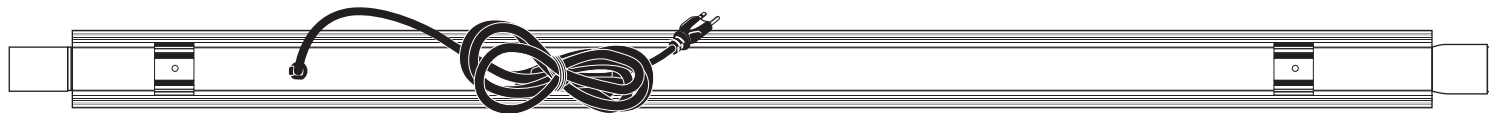
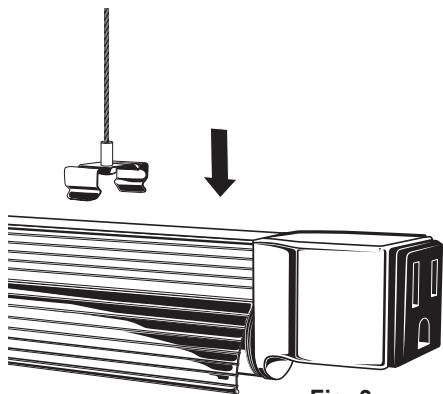
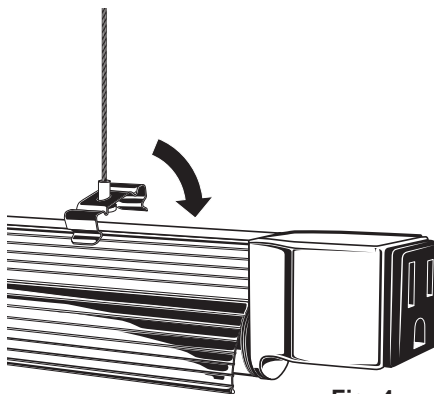
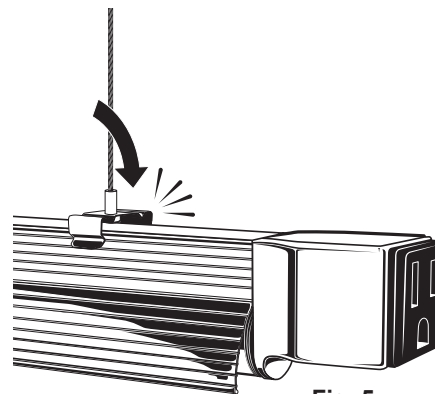

Fig. 2
Fig. 3
Fig. 4
Fig. 5
1. Install the mounting clip with cable to the top side of the fixture along the mounting track that the runs most of the length of the fixture (**Fig. 2**). Lower the clip onto the track. Hook to one side (**Fig. 3**) and press down (**Fig. 4**) until the clip snaps into place (**Fig. 5**). Attach the hanging cables to the ceiling (The actual mounting of the hanging cables to the ceiling or stand is not covered in these instructions). The mounting clips with cables are only designed to hold the weight of the fixture safely.